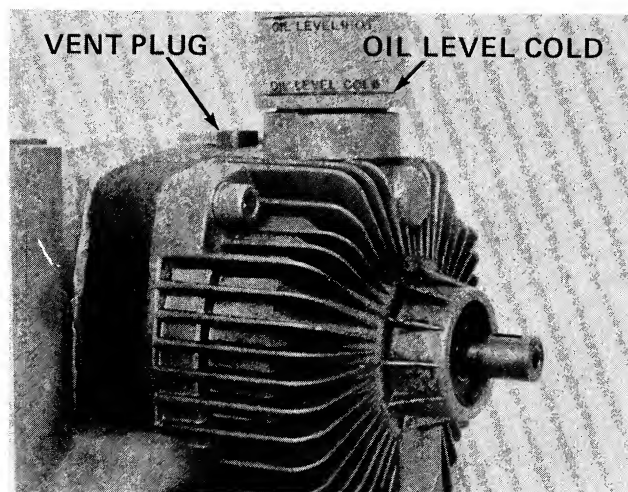

FIGURE 12
The transmission fluid level should be checked prior to initial use. The level should not be above the COLD mark which is about 1/4" from the bottom of the reservoir/expansion tank. See figure 12.
3. Check the oil level in the reservoir/expansion tank. See figure 12.